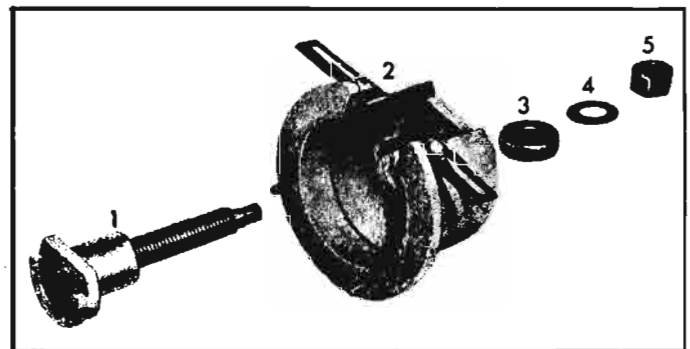

Fig. 6D-5—Clutch Gear Puller J-8361 Components
- c. Loosen screws securing bearing snap ring fingers on dome assembly, place fingers between open ends of snap rings, then fully open snap ring with pliers (fig. 6D-6) and tighten finger screws to retain ring fully expanded.